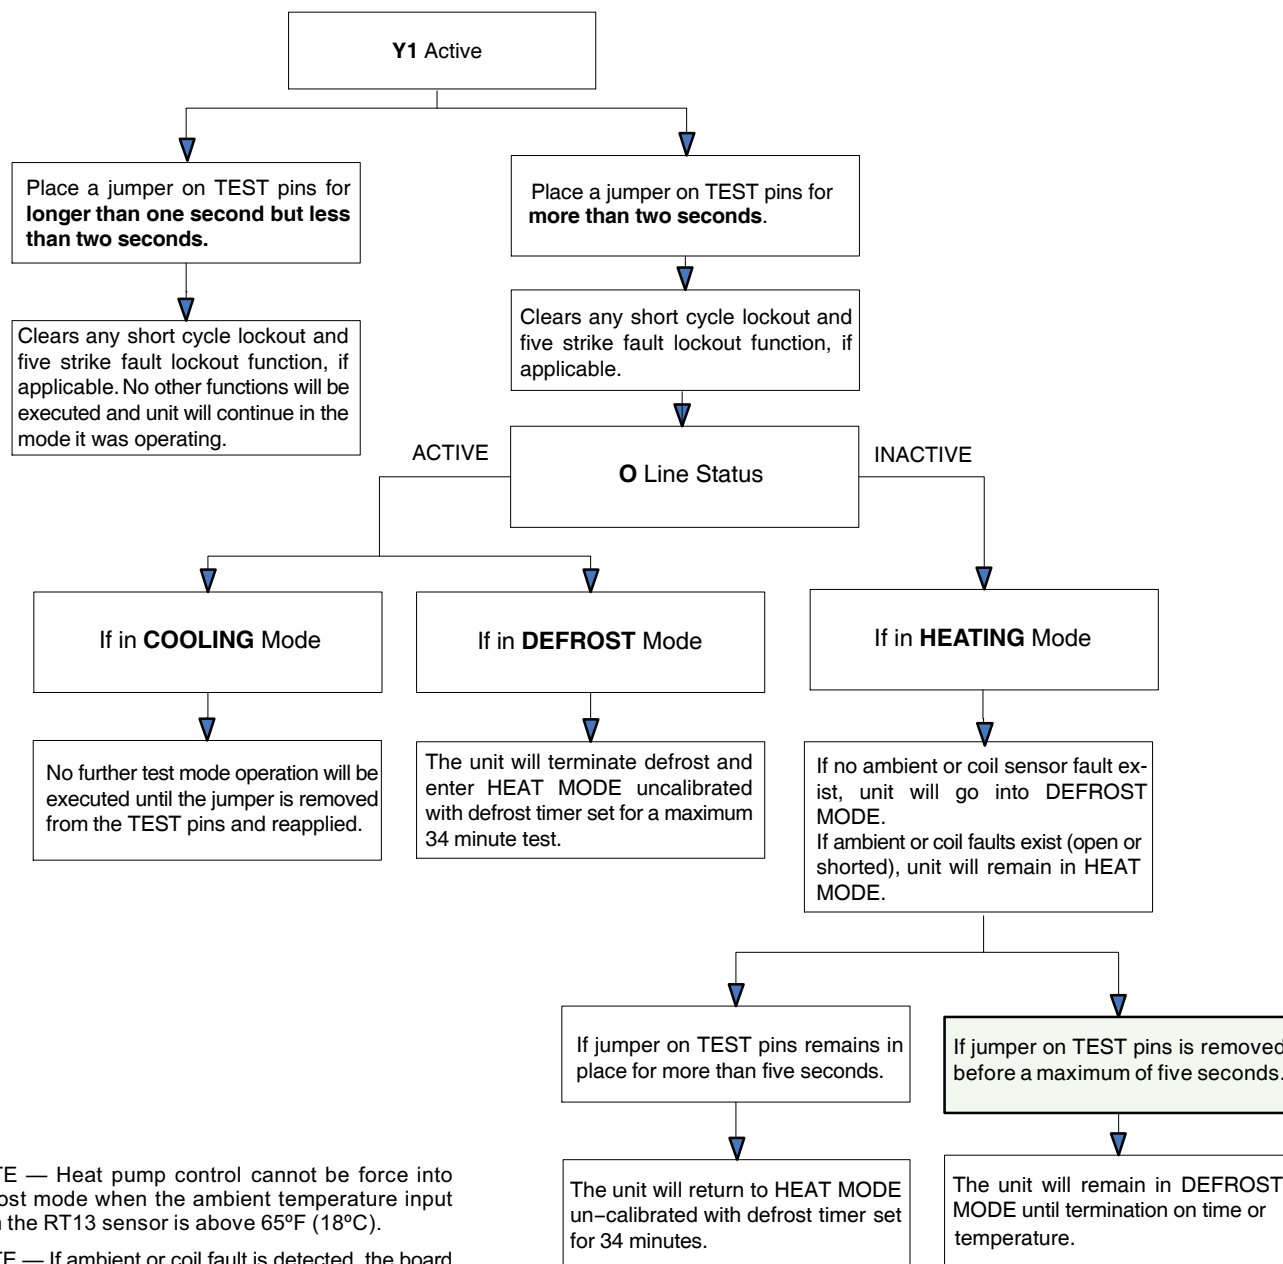

Figure 27. Test Pin (E33) Functions
- Defrost test (see figure 27)